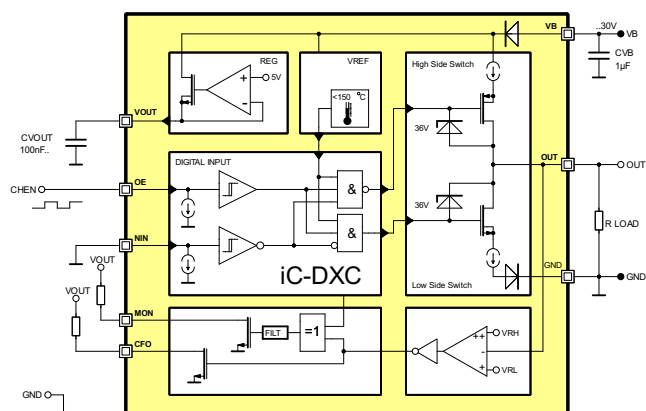
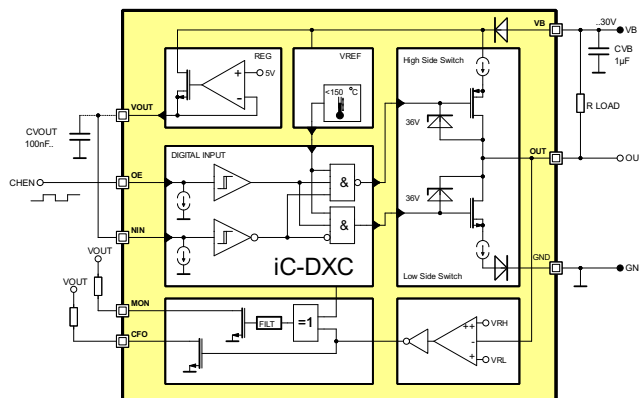
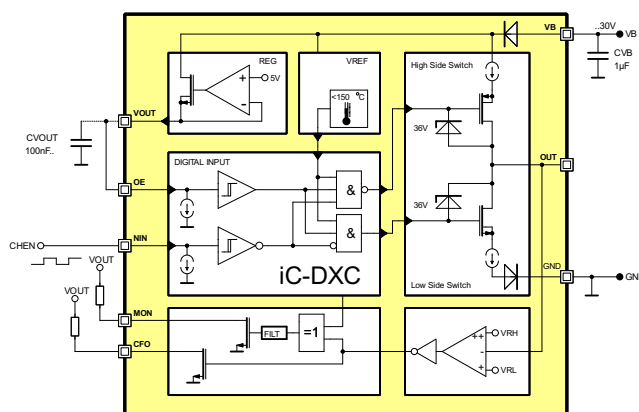

Figure 4: Configuration as High-Side (PNP-Switch)
Figure 5: Configuration as Low-Side (NPN-Switch)
Figure 6: Configuration as Pushpull
The iC-DXC can be operated in high-side (PNP), low-side (NPN) and push-pull (PP) switch mode. Figure 4 shows the high-side operation where NIN pin must be kept low and the OE pin controls the switch. Figure 5 shows the low-side operation where NIN pin must be kept high and the OE pin controls the switch. Figure 6 shows the push-pull operation where OE pin must be kept high and the NIN pin controls the switch. If the OUT signal differs from what declared in tables 4, 5 and 6 (due to external forcing) for more than 14 μ s (cf. Electrical Characteristics No. 510), this event will be signalled by a low level at MON output. In case of a short circuit at OUT and resulting temperature shut-down, logic level of MON will be undefined.
Table 4: Output Function table Fig. 4. High-side mode (PNP-Switch) with external pull-down.
Table 5: Output Function table Fig. 5. Low-side mode (NPN-Switch) with external pull-up.
Table 6: Output Function table Fig. 6. Push-Pull mode